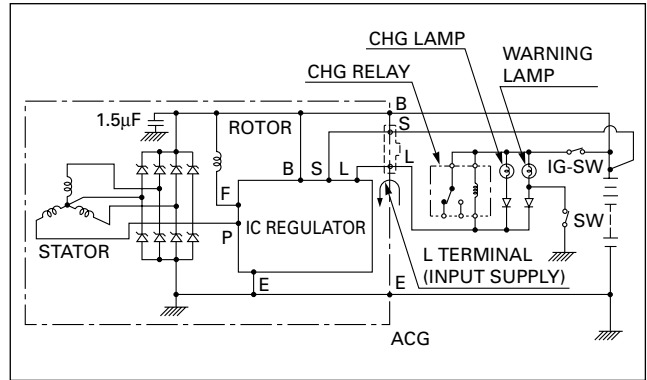

Figure 9. Generator Schematic
The stator windings are assembled on the inside of a laminated core that forms part of the generator frame. A rectifier bridge connected to the stator windings contains six diodes that change the stator AC voltages to a DC voltage (figures 9 and 10).
- The length of the vanes. The length must be 14.0–15.2 mm (0.551–0.598 in) (figure 9). Replace vanes if not within these specifications.